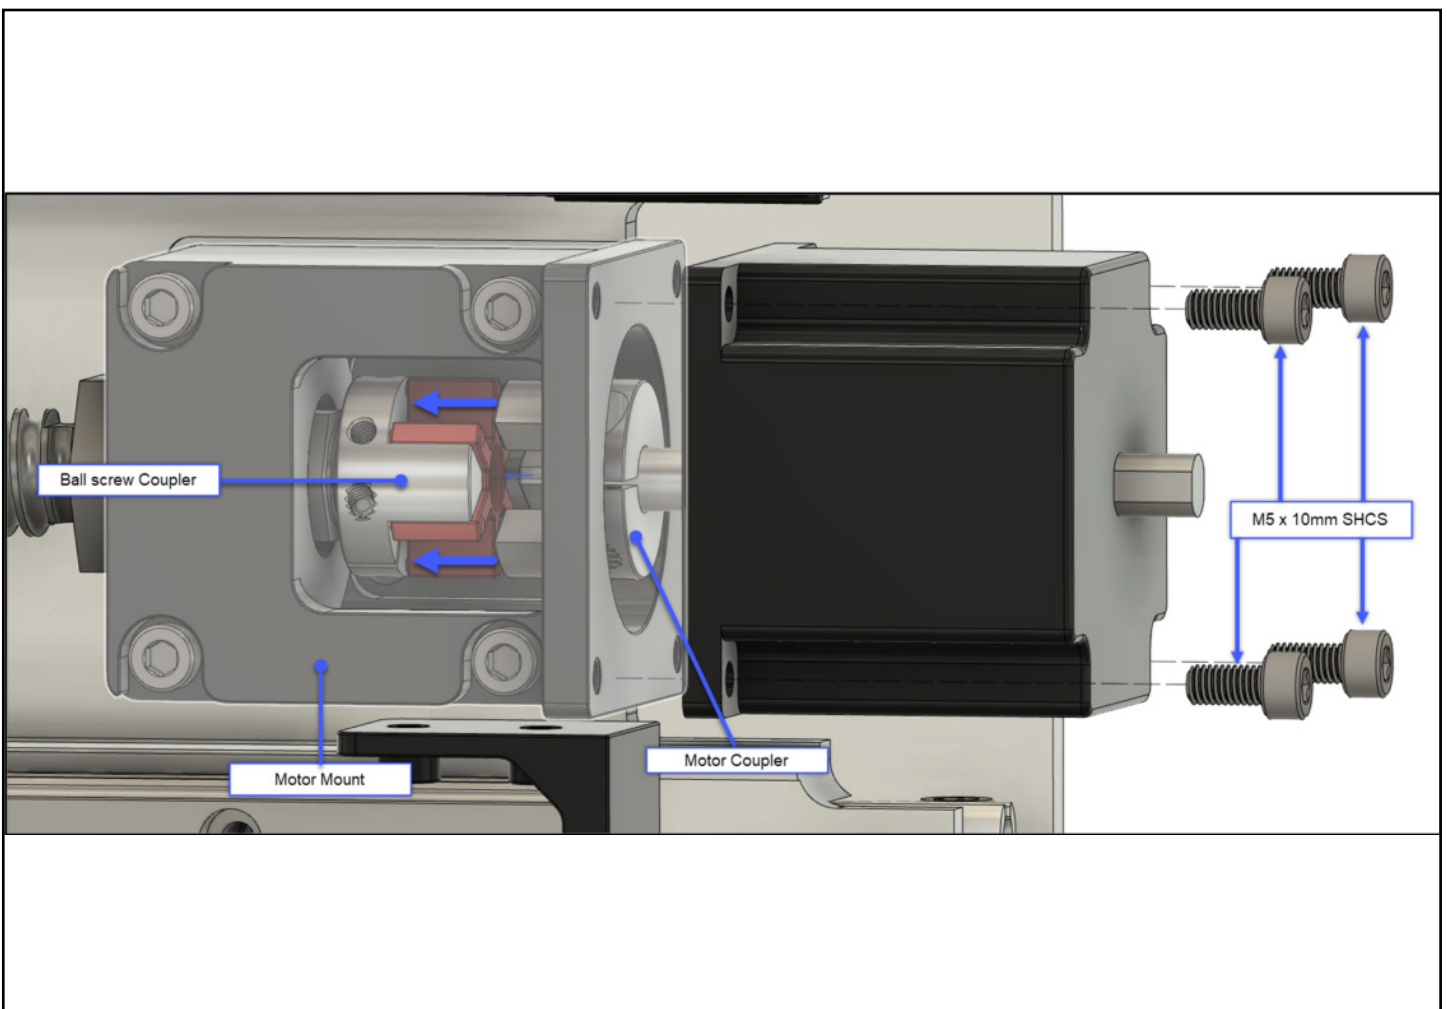

Figure 2-4
4. Press the couplers together until fully seated and the motor is flush with the motor mount. See **Fig. 2-4**.
5. Use a 4mm hex key and four (4) M5×10mm SHCS to secure the X-motor to the motor mount. Fully tighten.